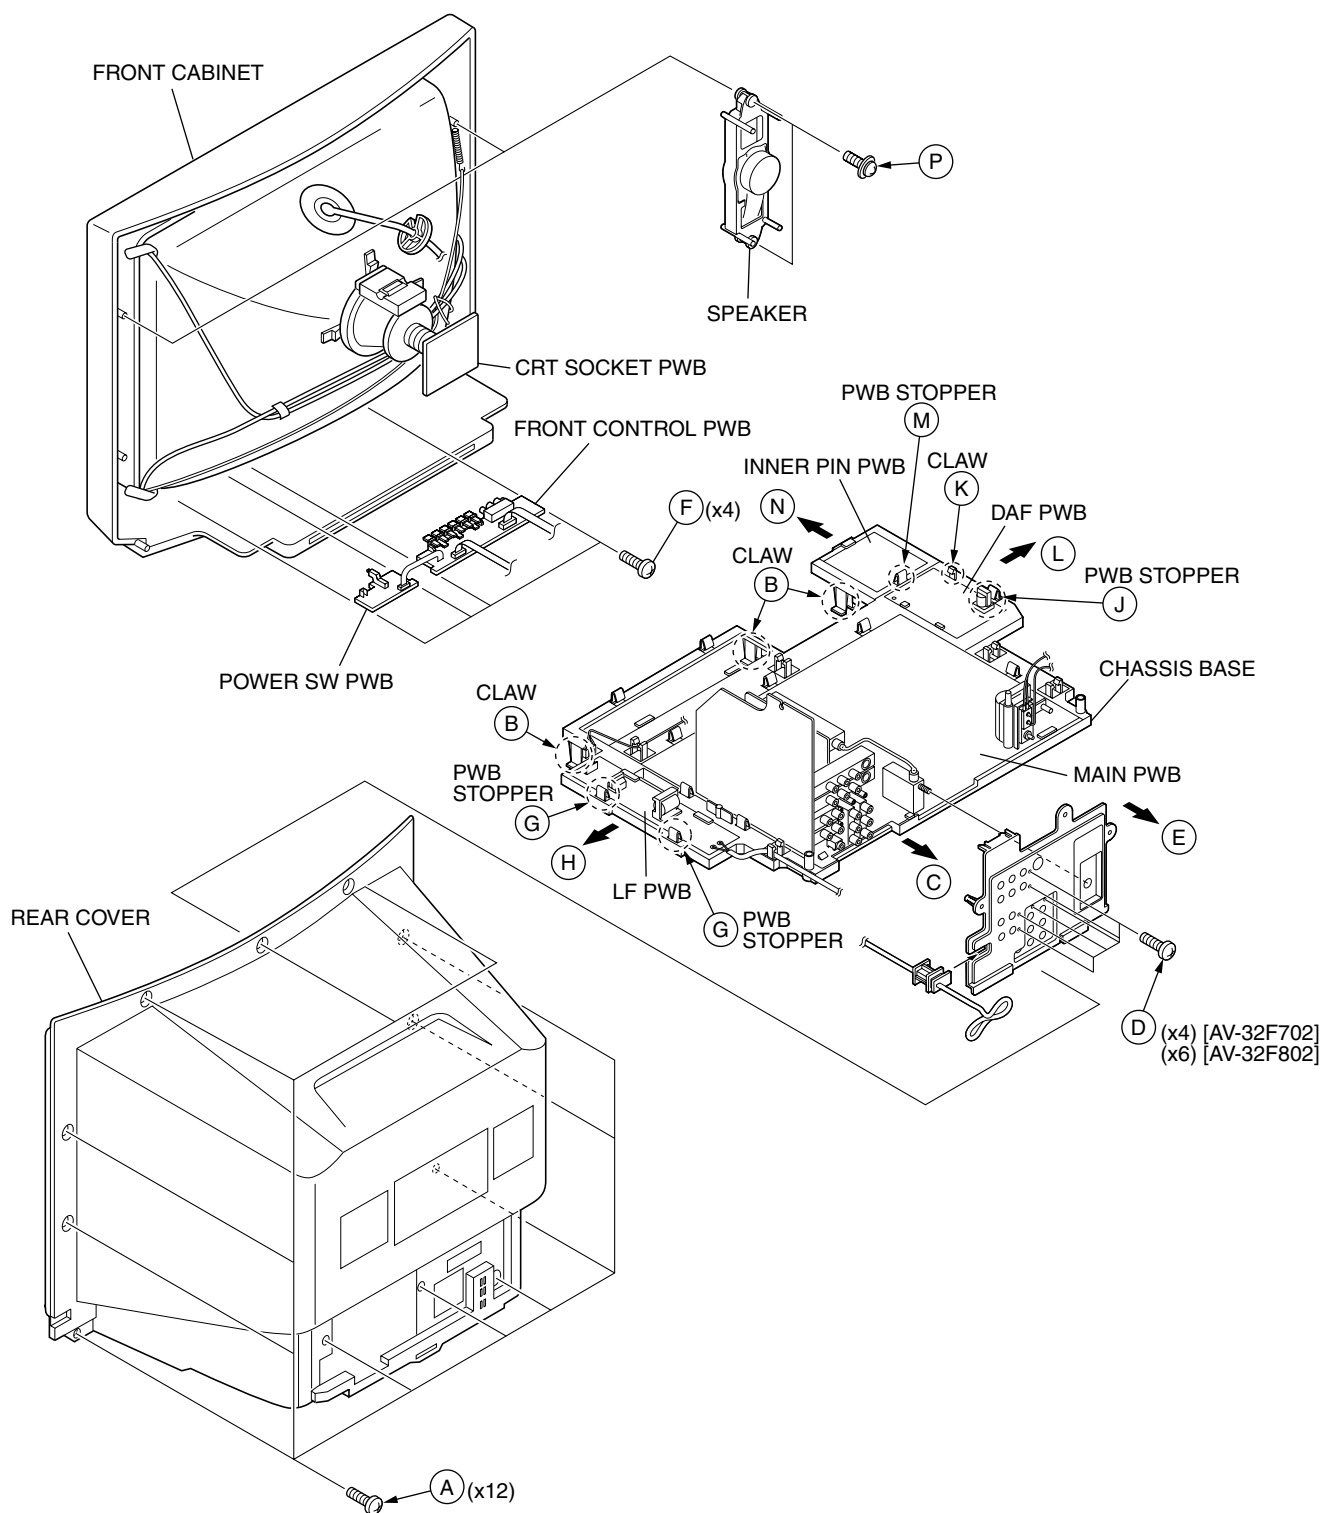
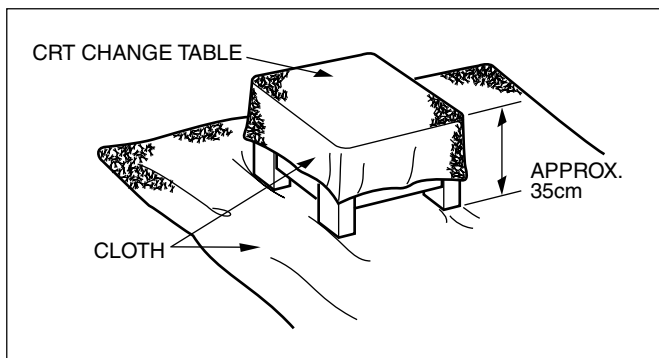

Fig.1
Fig. 2
2. Remove the 12 screws marked (A) as shown in Fig.1.
- 1. Slightly raise the both sides of the chassis by hand and remove the 3 claws marked (B) under the chassis from the front cabinet as shown in Fig.1.
- 2. Withdraw the chassis backward along the rail in the arrow direction marked (C) as shown in Fig.1.
Remove the 4 screws marked (D) as shown in Fig.1.
Remove the 6 screws marked (D) as shown in Fig.1.
- 2. When you pull out the TERMINAL BOARD in the direction of arrow marked E as shown in Fig.1, it can be removed.
- 1. Remove the 4 screws marked (F) as shown in Fig.1.
- 1. Lift the left side of the LF PWB while pressing the 2 PWB stoppers marked (G) in the arrow direction marked (H) as shown in Fig.1.
- 1. Lift the right side of the DAF PWB while pressing the PWB stopper marked (J) and claw marked (K) in the arrow direction marked (L) as shown in Fig.1.
- 1. Lift the back side of the INNER PIN PWB while pressing the PWB stoppers marked (M) in the arrow direction marked (N) as shown in Fig.1.
- 1. Remove the 2 screws marked (P) as shown in Fig.1.
- 1. Putting the CRT change table on soft cloth, the CRT change table should also be covered with such soft cloth (shown in Fig. 2).
(1) Power off Switch off the power and disconnect the power cord from the outlet.
(2) Replace the memory IC Initial value must be entered into the new IC.
(3) Power on Connect the power cord to the outlet and switch on the power.
(4) System constant check and setting <ol style="list-style-type: none"> 1) Press SLEEP TIMER key and, while the indication of "SLEEP TIMER 0 MIN." is being displayed, press DISPLAY key and VIDEO STATUS key on the remote control unit simultaneously. 2) The SERVICE MENU screen of Fig.1 is displayed. 3) While the SERVICE MENU is displayed, again simultaneously press the DISPLAY and VIDEO STATUS keys to display the Fig.2 SYSTEM CONSTANT screen. 4) Refer to the SYSTEM CONSTANT table and check the setting items. Where these differ, select the setting item with the MENU UP/DOWN key and adjust the setting with the MENU LEFT/RIGHT keys. (The letters of the selected item are displayed in yellow.) 5) After adjusting, release the MENU LEFT/RIGHT key to store the setting value. 6) Press the EXIT key twice to return the normal screen. 	 <p>[AV-32F702]</p>  <p>[AV-32F802]</p> <p>Fig.1</p>  <p>Fig.2</p>
(5) Receive channel setting Refer to the OPERATING INSTRUCTIONS(USER'S GUIDE) and set the receive channels (Channels Preset) as described.
(6) User settings Check the user setting items according to Table 2. Where these do not agree, refer to the OPERATING INSTRUCTIONS (USER'S GUIDE) and set the items as described.
(7) SERVICE MENU setting Verify what to set in the SERVICE MENU, and set whatever is necessary.(Fig.1) Refer to the SERVICE ADJUSTMENT for setting.